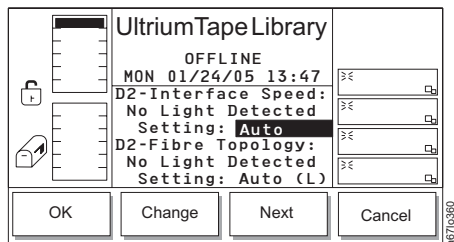

Figure 4-109. Second page of the FC ID Dialog
- Press the button below the **Next** softkey to display the second page of the FC ID Dialog (see Figure 4-109 on page 4-67).